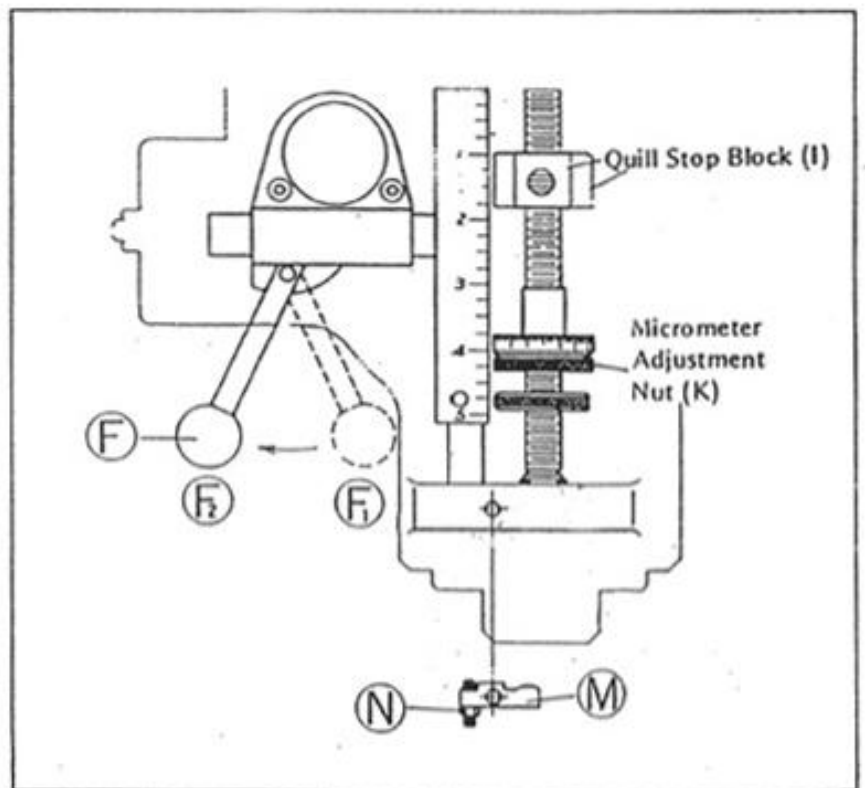

FIG.14
- d. Pull the feed control lever (F) from (F1) to (F2) position (Fig.14) to engage the overload clutch for automatic feed mechanism.
- f. As shown in (Fig.14), the working depth may be set by micrometer adjustment nuts (K) (each graduation is 0.001" or 0.02mm). When the quill stop block (I) contacts the micrometer adjustment nut (K), the feed control lever (F) may simply jump from (F2) back to (F1) position owing to the connecting motion between the feed trip lever and feed trip plunger. This will disengage the overload clutch and stop the spindle feed.
2. The power feed transmission engagement crank (I)(Vide P.21, P.22) shall be placed at "OUT" position when the automatic feed is not in operation. Do not move the power feed transmission engagement crank when the spindle is in revolution.
Bring quill stop block (1) (Fig.14) at least 5mm downward from the high-end position before engage feed control lever (F).